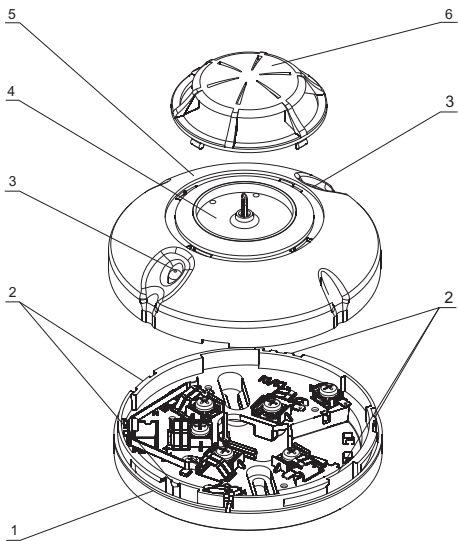
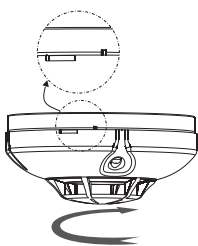
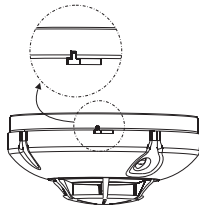

Fig.1
Fig.3.1
Fig.3.2
The circuit board and a chamber containing thermosensitive element (Fig.1, position 6) are mounted within the plastic body (Fig.1, position 5). Two LEDs, (Fig.1, position 4), offering 360° visibility, illuminate to indicate the following:
3. Replace the detector head on the base and rotate it in a clockwise direction to reach the base's leading channels (Fig.1, position 2). Continue rotating in a clockwise direction to complete location (Fig.3.1). The bench marks of the head and the base should fully coincide (Fig. 3.2).
2. Wait until the fire detector is set to Duty Mode and from a 20 cm distance influence the device using a heat tester. Within 40 seconds the fire detector shall enter fire condition and the LEDs (Fig. 1, position 3) shall illuminate continuously.
\* To complete task №3, remove the detector's upper part (Fig. 1, position 6). Clean using a small brush. The upper part is removed by rotating it anticlockwise until rest.